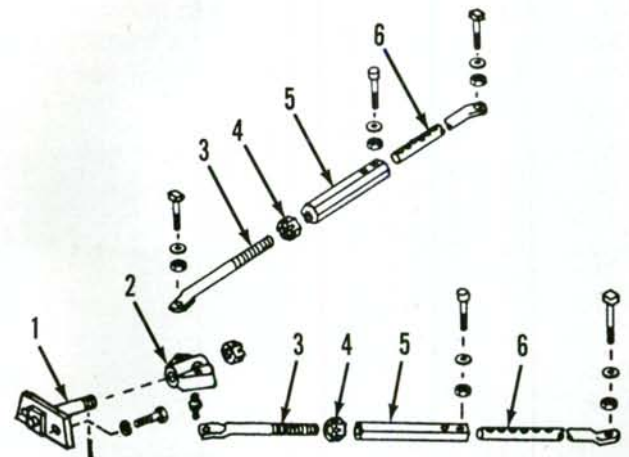

Fig. 5—Exploded view of radius rods used on 4255 Hi-Crop models.
**NOTE:** On 4255 Hi-Crop models, disconnect radius rods (Fig. 5) from axle extensions.